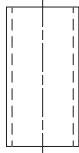

Figure 3
5. Install the disc springs over the inner spring guide in the proper configuration as shown in Figure 3 or 4 below. The free stack height of the disc springs will exceed the inner guide height.